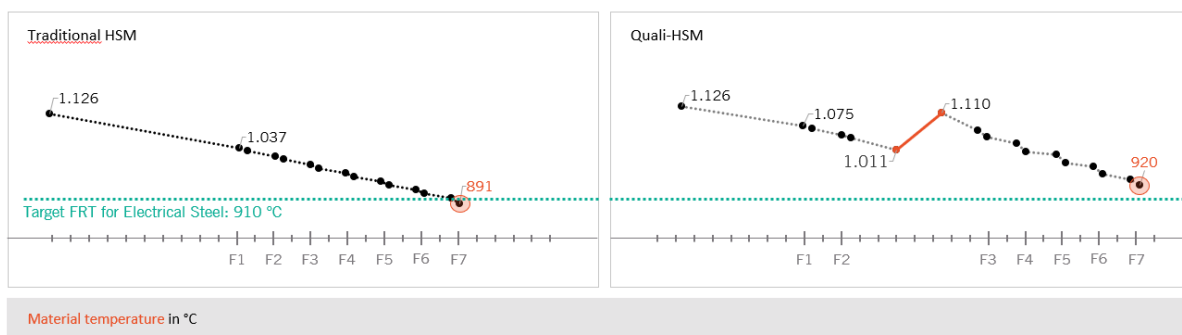

Figure 11 - Comparison of temperature trends for 1.5mm Si Steel
- Premium grades which are demanding in terms of final rolling temperature, such as electrical steel or ultra-low carbon steel, are benefitting from a tool which can boost the final rolling temperature above 920 °C even when rolling thin gauges, which becomes an opportunity to sell on the market new products out-of-range for the traditional HSM, such as 1.5 mm Silicon steel, see Figure 11.